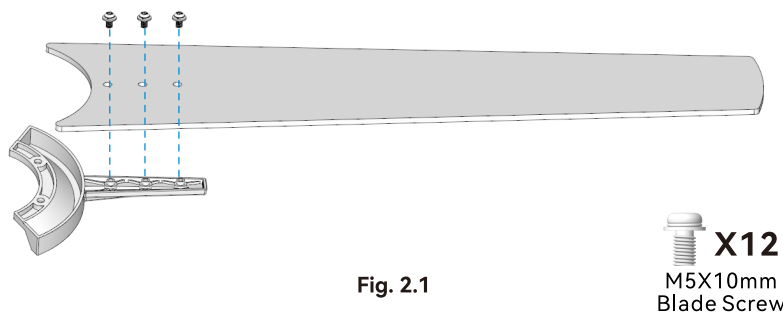

Fig. 2.1
2.1 Locate the blade attachment screws included in the hardware pack. Use these screws to firmly attach each blade to the blade bracket, as demonstrated in Fig. 2.1.